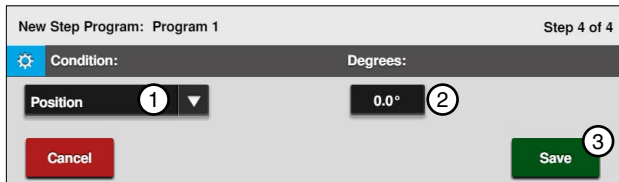

Figure 110-3 1. Condition 2. Degrees 3. Save
11. Program the position condition for this step. Refer to Figure 110-3.